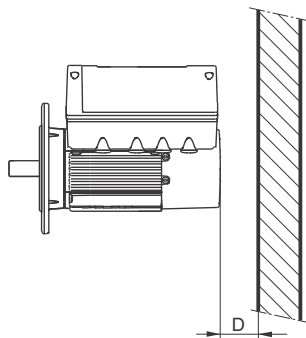

Fig. 3 Minimum distance (D) from the motor to a wall or other fixed objects
In order to ensure sufficient cooling of the motor, the distance (D) between the end of the fan cover and a wall or other fixed objects must always be at least 50 mm, irrespective of motor size. See fig. 3.